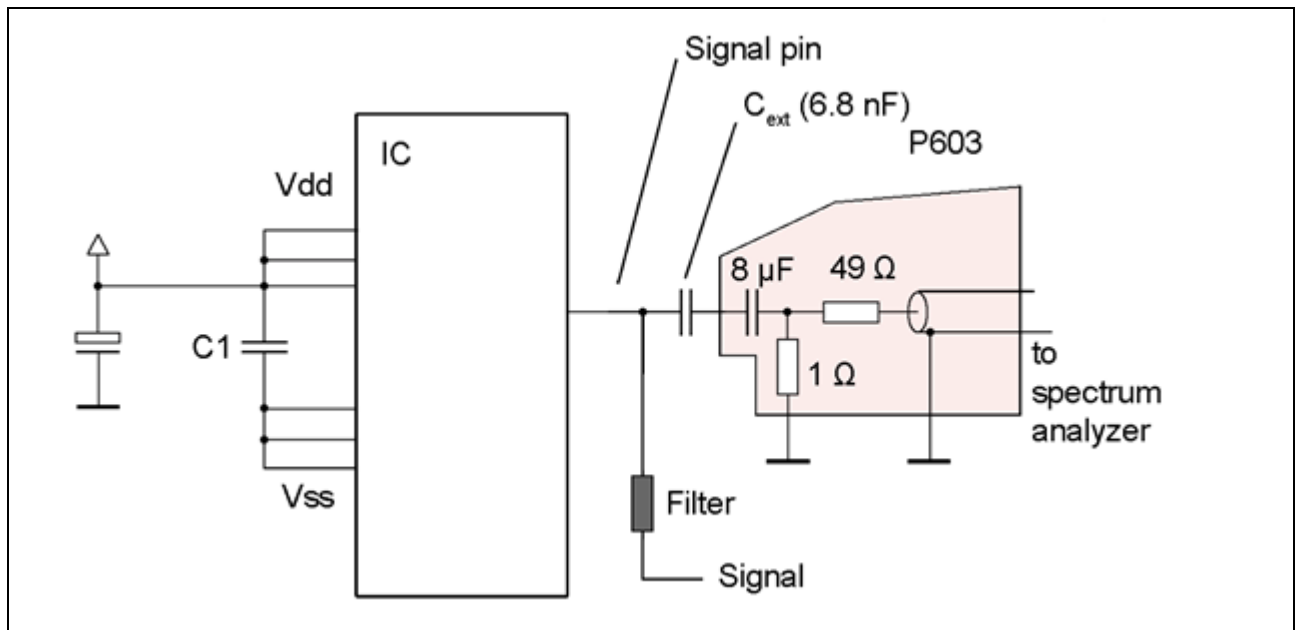

Figure 7: P603, current measurement on a single Vdd pin under function.
3. Current measurement (P603) on a single Vdd pin (with external capacity), **Figure 7**